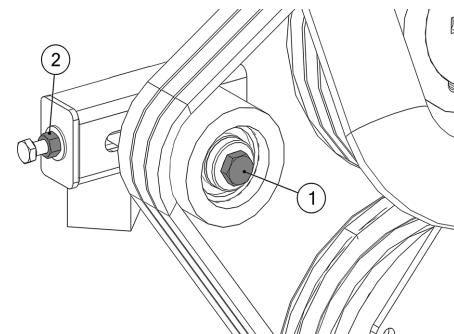

Figure 23 - Tensioner Pulley Assembly
2. Use a 19 mm spanner to loosen the bolt in the centre of the tensioner pulley until the pulley is able to slide with minimal wobble (Figure 23, Item 1).
3. Turn the nut on the end of the tensioner pulley slider until the correct belt tension is achieved (Figure 23, Item 2). (Refer to Section 6.11 "V-Belt Tensioning Procedure" on page 44.)